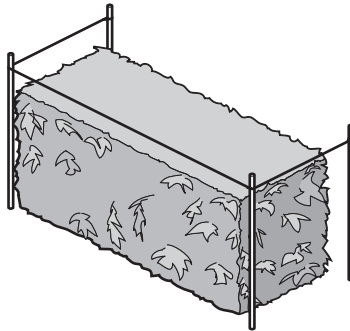

Fig. 9
- Use a string to obtain a level hedge. Stretch a string along the top of the hedge at the desired height and trim the hedge just above the level of the string (Fig. 9).